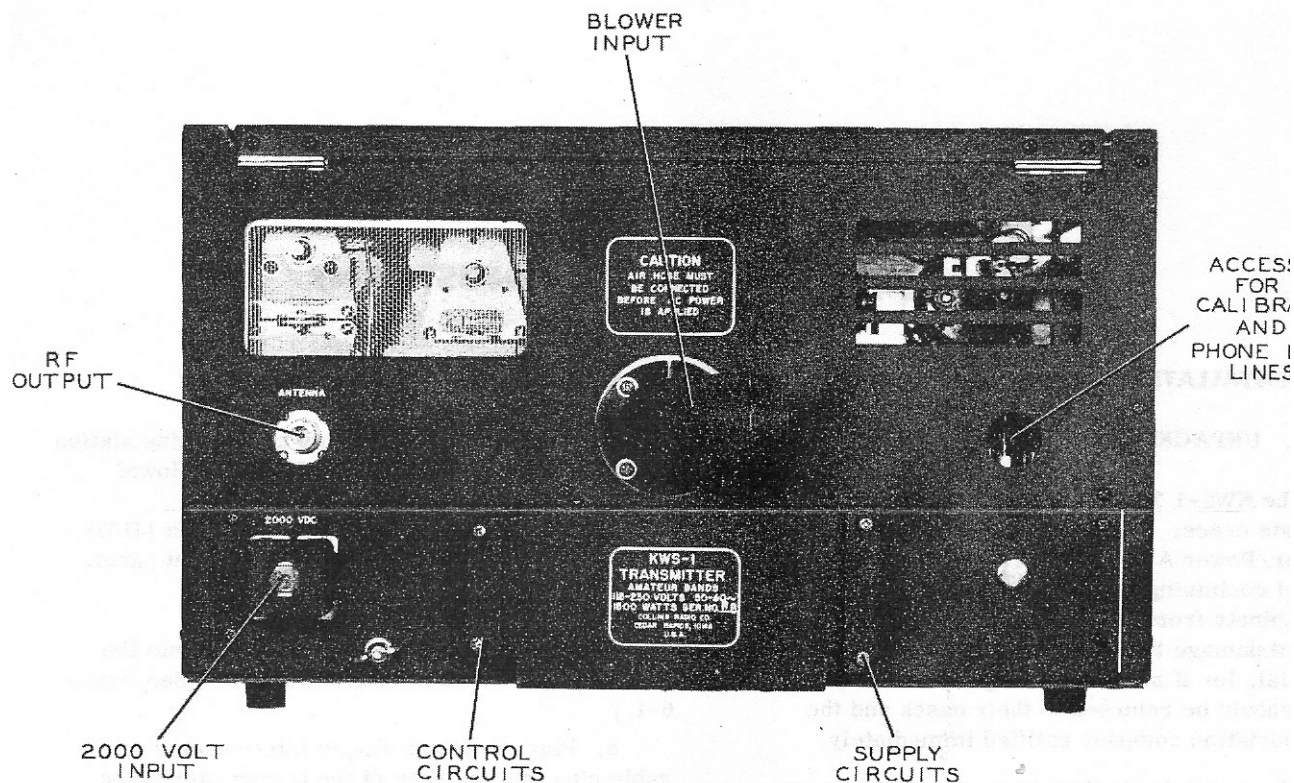

Figure 2-1. Exciter/Power Amplifier Rear Panel
- c. Plug the power supply interconnecting cable plug into the rear of the transmitter. See figure 2-1.
- d. Plug the pendent cable plug into CONTROL CIRCUITS at the rear of the transmitter. See figure 2-1.